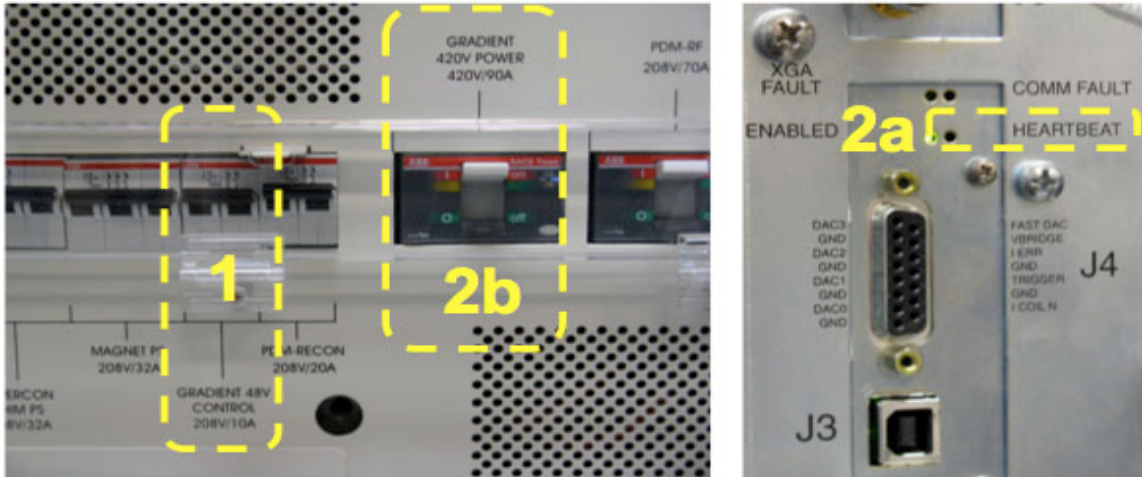

Figure 18. Turn circuit breakers on in the following order:
- 27) **Turn ON** Gradients Control Switch (Fig. 18 – highlighted switch #1) and wait for about 10 seconds to ensure the gradient control system is functional. As a visual cue, you can wait until the LEDs “heartbeat” of the three gradient amplifiers XGA (X, Y, Z) are continuously flashing ON and OFF (Fig. 18 – highlighted LED #2a).
- 28) **Turn ON** Gradients Power Switch (Fig. 18 – highlighted switch #2b).